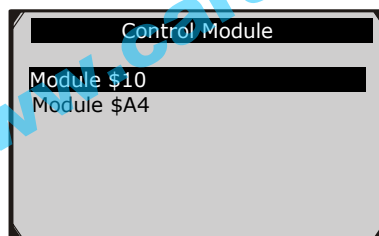

Figure 6.2
- If more than one module is detected, you will be prompted to select a module before testing. (Figure 6.2)